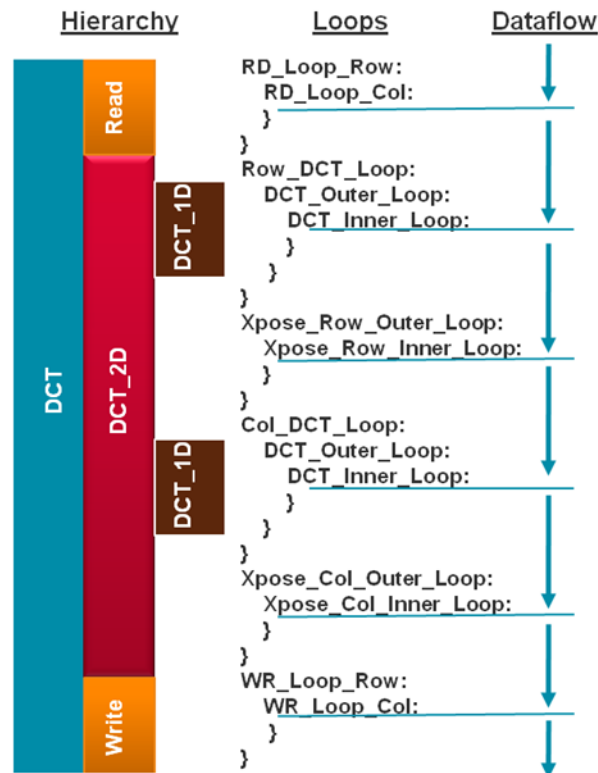

Figure 6-4: Overview of the DCT Design
This example uses a DCT function. Figure 6-4 shows an overview of this code.
- The left side of Figure 6-4 shows the code hierarchy.
- The center of Figure 6-4 shows loops inside each of the functions.
- The right side of Figure 6-4 shows the how the data is processed through the functions and loops.